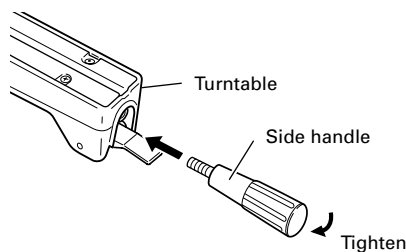

Fig. 6
2. Install the side handle (Fig. 6)